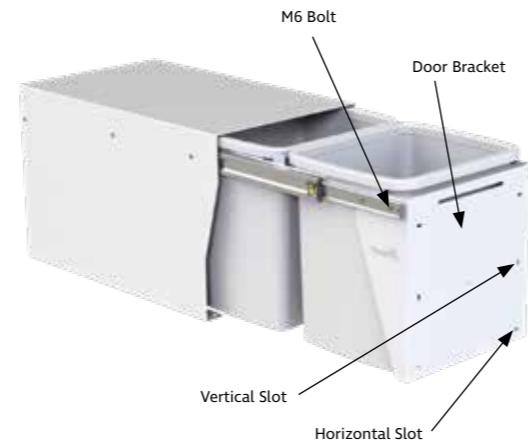

FIG 2 - Bin Parts for Door Pull Models
Step 4 – Mounting and Adjusting the Door Panel (Door Pull Models Only) Refer FIG 2